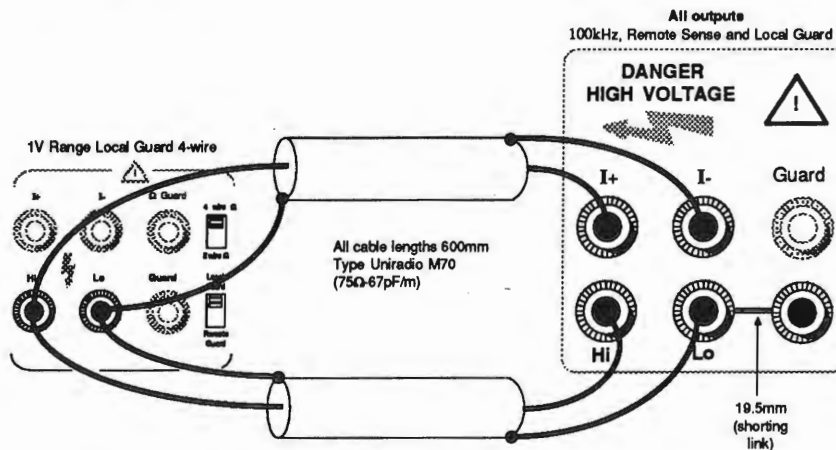

Fig. 1 10V and 1V Range Interconnections
- c. With OUTPUT OFF connect a DVM to the 4705 terminals using the exact 4-wire connections as in Fig. 1. Set the DVM to measure AC on its 1V range.